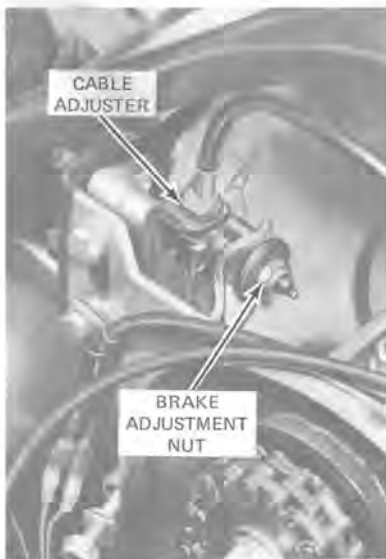

Figure 10-2
- Loosen brake adjustment screw lock nut. See Figure 10-2.